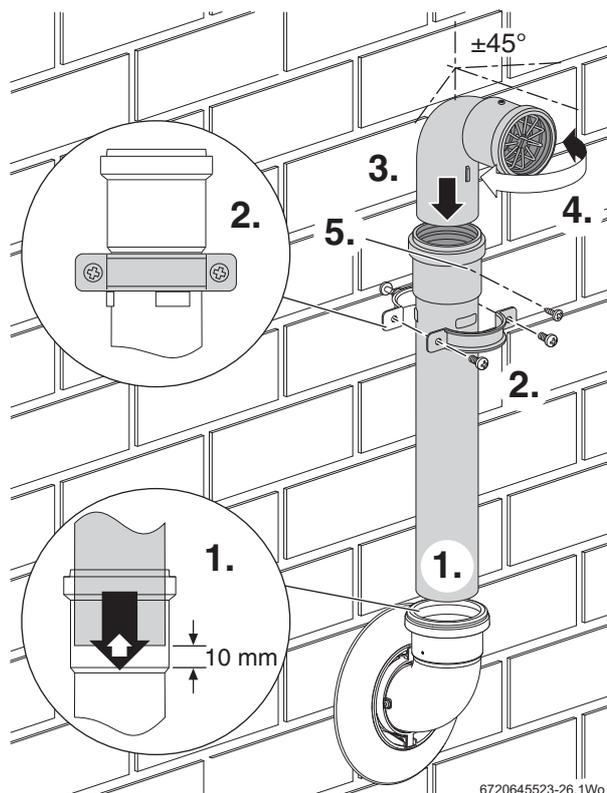
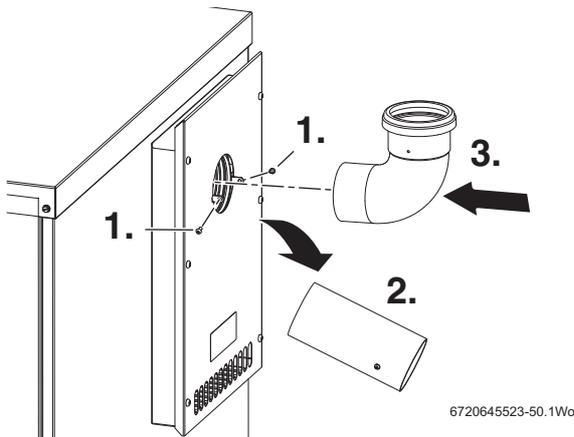

Fig. 49 Plume management installation
Fig. 50 Fitting the terminal bend
3. Mark the position for the wall clamp so that it coincides with the extension tube just below the top fitting (Refer to figure 49 point 2). Drill a hole to suit the wall plug and fit the wall plug.
Refer to figure 49 plume management installation.
► Fit a flue damper into the plume management for 18/25 wall mounted Danesmoor boiler only. Fit the damper (1) as shown in figure 49, ensuring the correct orientation of the damper. The rubber seal is inserted into the extension tube. Then assemble the plume management system as shown in figure 50.